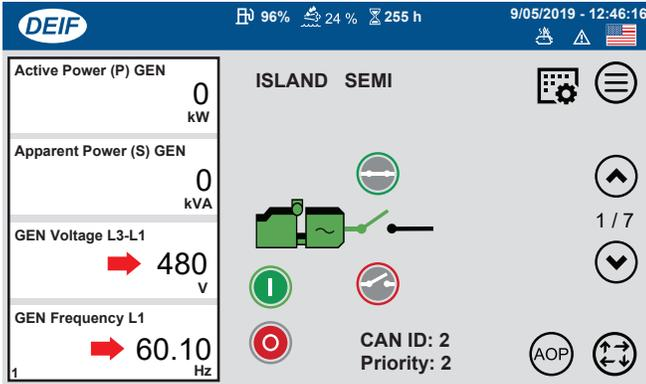

Figure 144. Voltage (V) and Frequency (Hz)
- On the touch display (Figure 144), verify that the **voltage (V)** and **frequency (Hz)** match the expected output.